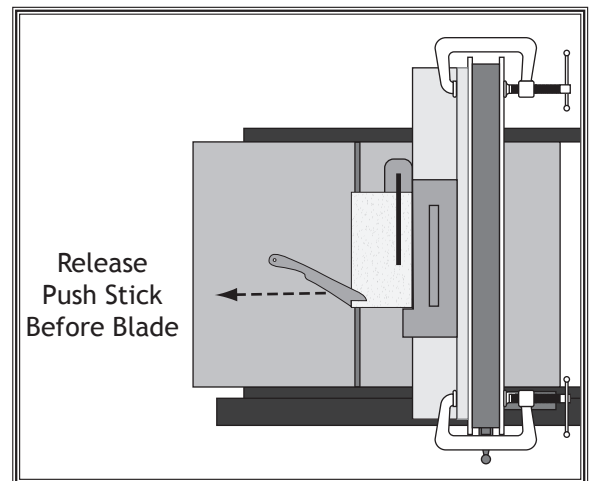

Figure 92. Ripping with push block.
6. Guide workpiece rest of the way through cut with push block, as shown in **Figure 92**.